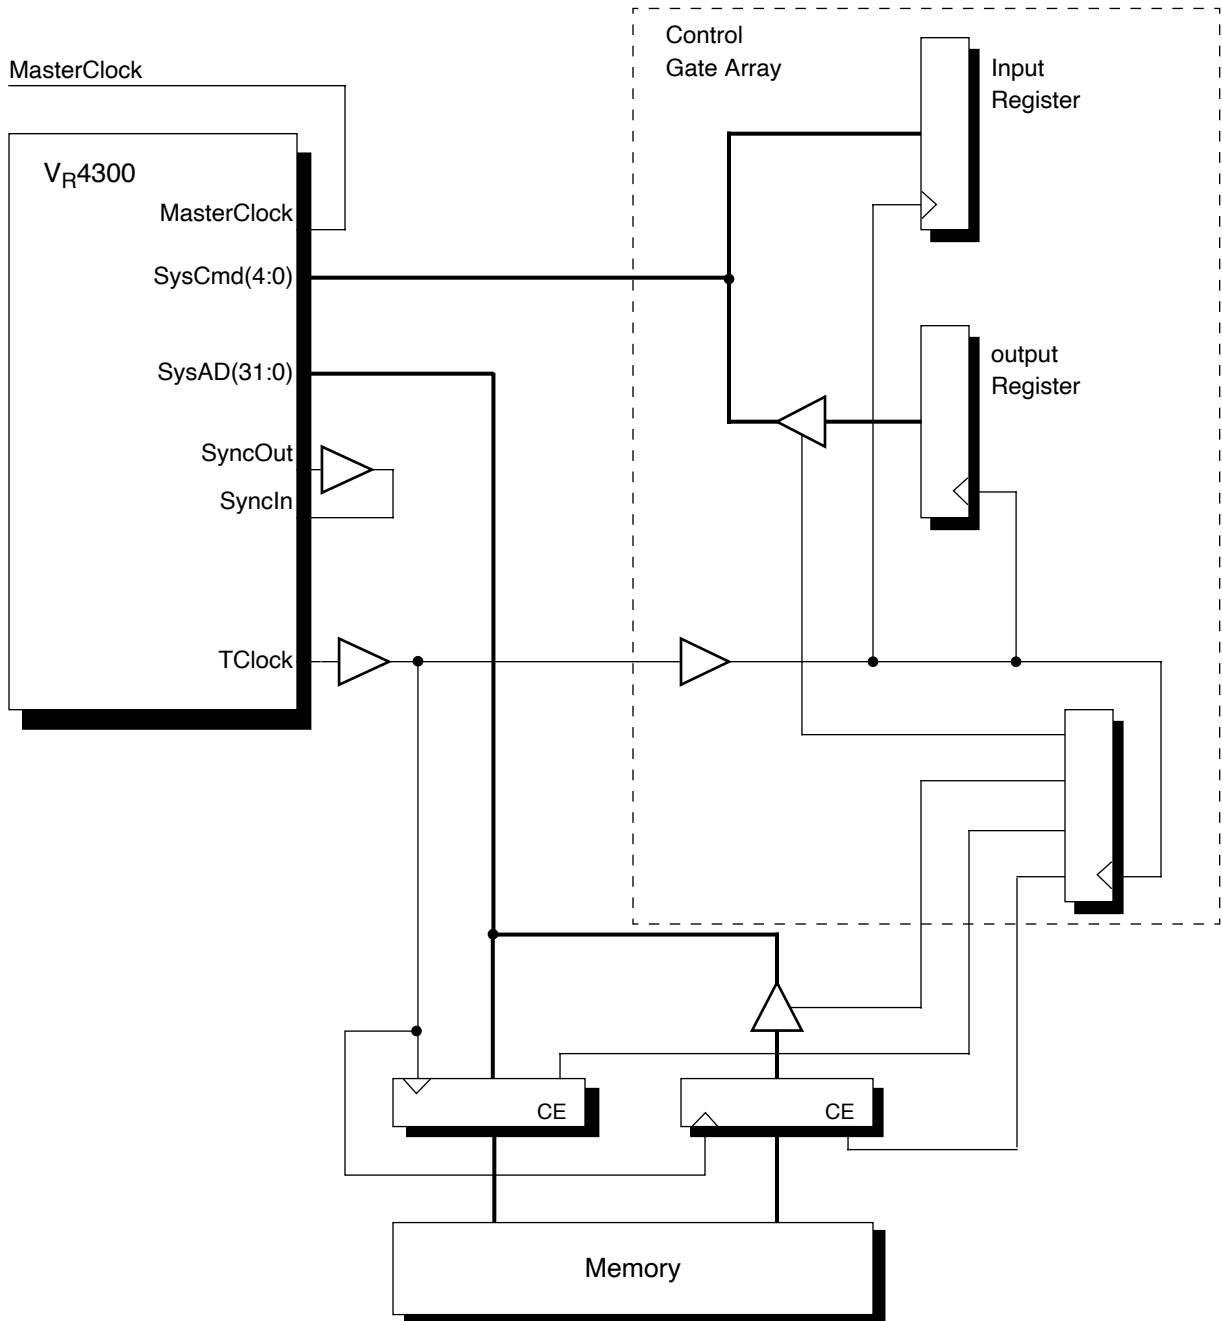

Figure 10-7 Gate-Array and CMOS System without Phase Lock, Using the VR4300 Processor
**SyncOut** must be connected to **SyncIn** either directly, or through an external buffer. The processor can compensate for both output driver and input buffer delays when aligning **SyncIn** with **MasterClock**. When **SyncOut** is connected to **SyncIn** through an external buffer as illustrated in Figure 10-7, delay caused by external buffers connected to clock outputs can also be compensated.
Figure 10-7 is a block diagram of a system without phase lock, employing the  $V_{\text{R4300}}$  processor and an external agent composed of both a gate array and CMOS discrete devices.